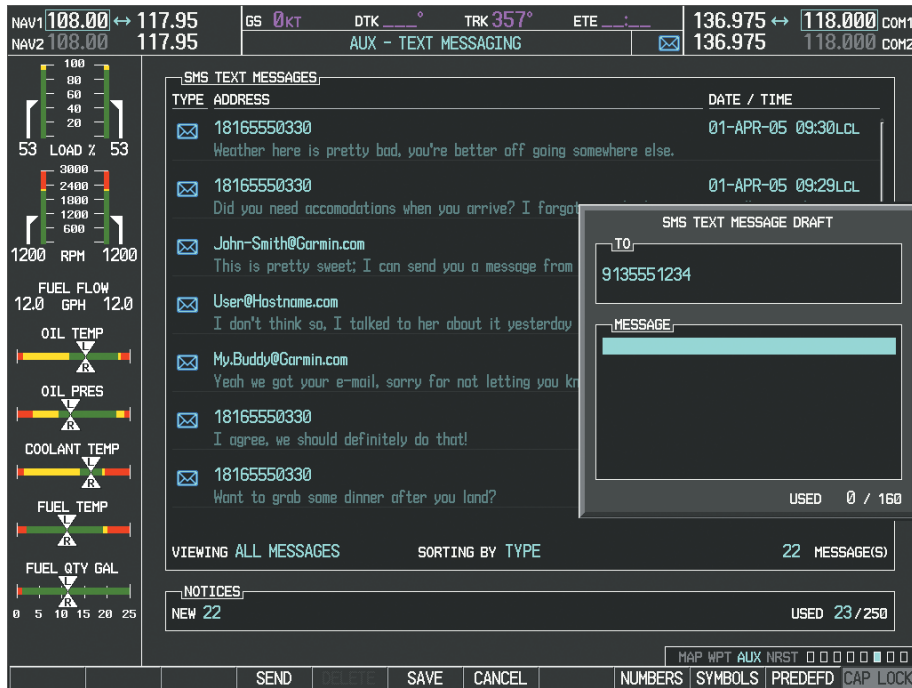

Figure 8-95 Composing a New Text Message
- 3) Press the **ENT** Key. The cursor is now displayed in the 'MESSAGE' field (Figure 8-95).